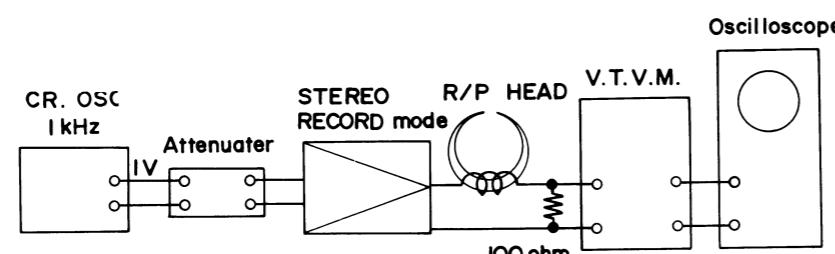

Fig. 22
4. MEASUREMENT OF FREQUENCY CHARACTERISTIC OF RECORDING AMPLIFIER (HEAD CURRENT) (Refer to Fig. 22)